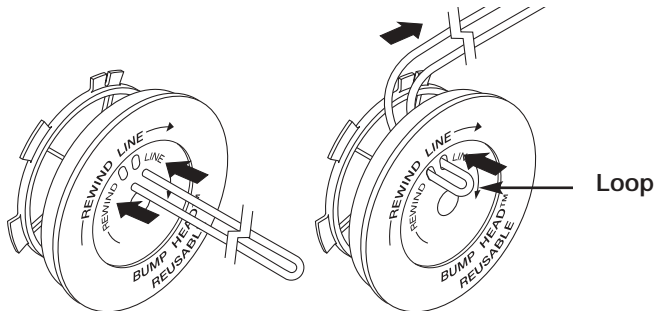

Fig. 19
- Take approximately 16 feet (5 m) of new trimming line, loop it into two equal lengths. Insert each end of the line through one of the two holes in the inner reel (Fig. 19). Pull the line through the inner reel so that the loop is as small as possible.